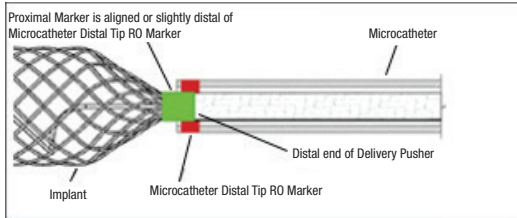

Figure 6 – Position of Marker Bands for Detachment
24. Under fluoroscopic guidance, slowly advance the implant out the tip of the catheter. Continue to advance the implant into the desired site until the proximal radiopaque marker on the implant is aligned or slightly distal of catheter distal tip RO marker, positioning the detachment zone just outside the catheter tip. See Figure 6. Reposition if necessary. If the implant size is not suitable, remove and replace with another device. If undesirable movement of the implant is observed under fluoroscopy following placement and prior to detachment, remove the implant and replace with another more appropriately sized implant. Movement of the implant may indicate that the implant could migrate once it is detached. **DO NOT** rotate the delivery pusher during or after delivery of the implant into the vasculature. Rotating the delivery pusher may result in damage to the implant or premature detachment of the implant from the delivery pusher, which could result in implant migration. Angiographic assessment should also be performed prior to detachment to ensure that the implant is not extending into undesired vasculature.